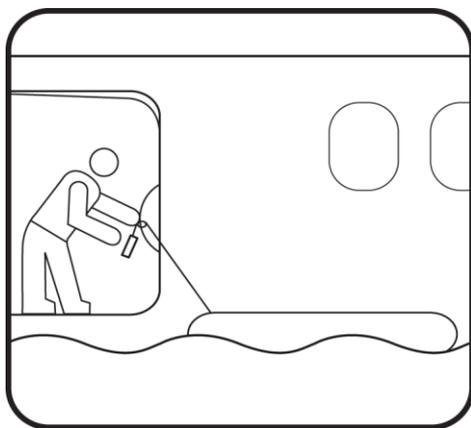

FIGURE 5
9. Once the raft is inflated, securely attach the red handle end of the lanyard to the aircraft to prevent the raft from drifting away. Secure to a strong point such as a seat leg or door handle. (See Figure 5). After inflation, the total lanyard length is 20ft (6m).